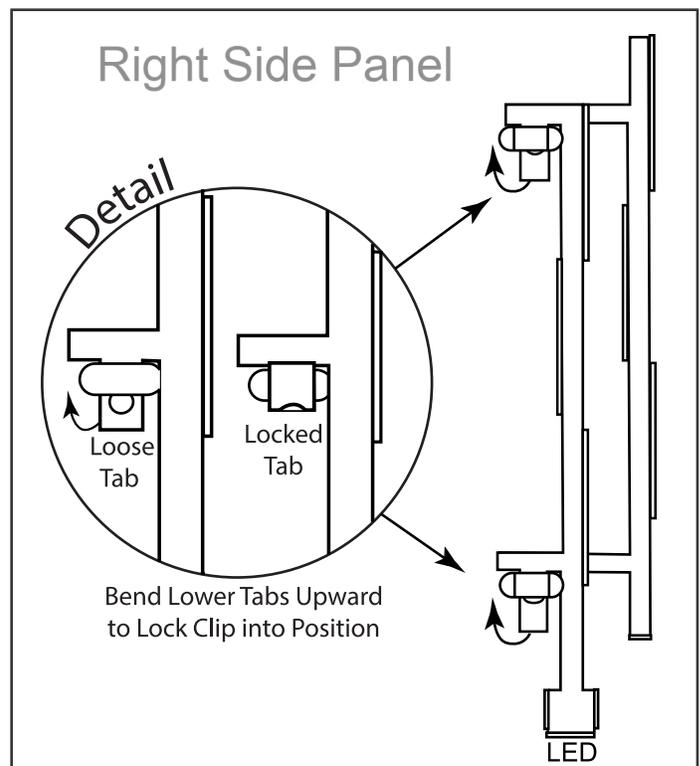

Figure 19 - Installing windshield clips
Step 4: After each LED glass clip is installed, use a flat blade screw and carefully bend the bottom tab out and upward to lock it into position. Use a fingertip or pliers to press the tab flat against the metal bridge to lock it into place. See Figure 19.